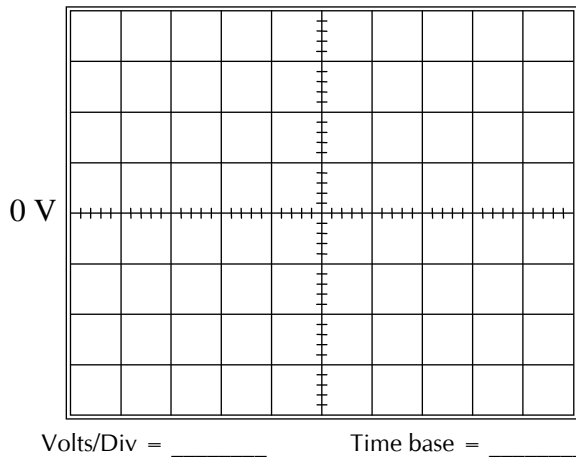

Fig. 3.13 Waveform v_0 (measured)
5. Reverse the direction of the diode and record the resulting waveform on Fig. 3.13 as obtained using the oscilloscope.